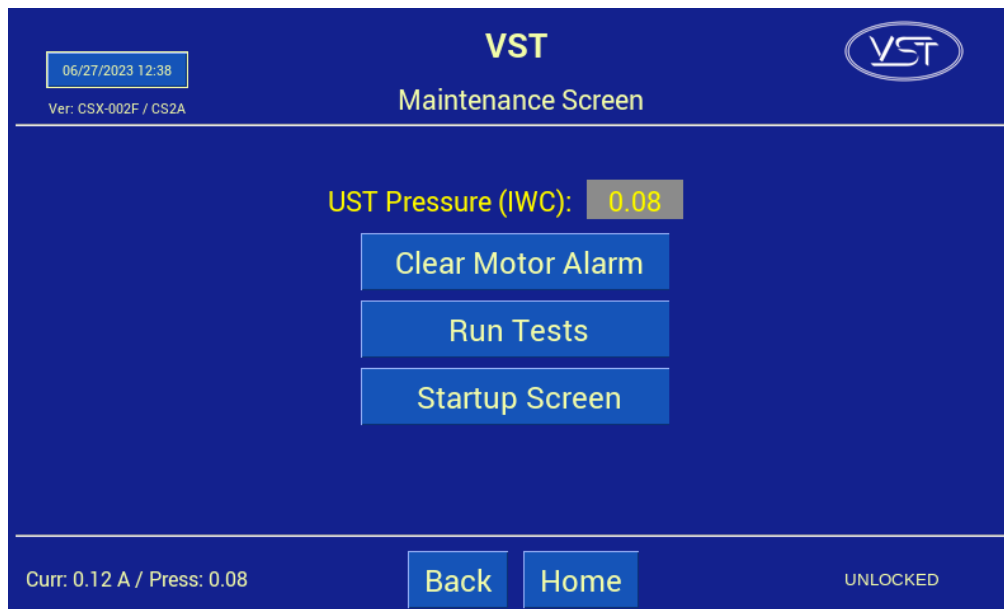

Figure 9-24: Maintenance Screen
2. At the Maintenance Screen, push Run Tests button, then the Functionality Test button to operate the Vacuum Pump. This will allow the Vacuum Pump to blow outside air through the plastic tube. **See Figure 9-24.**